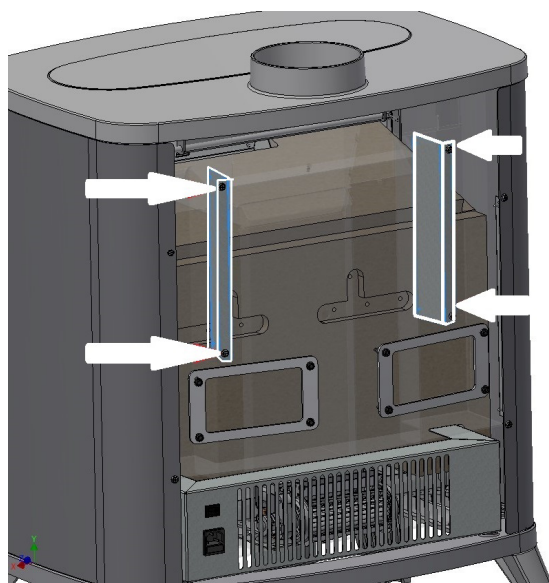

Fig. 15 - Rotate brackets
- Remove the 2 internal flue gas brackets **Fig. 15**.